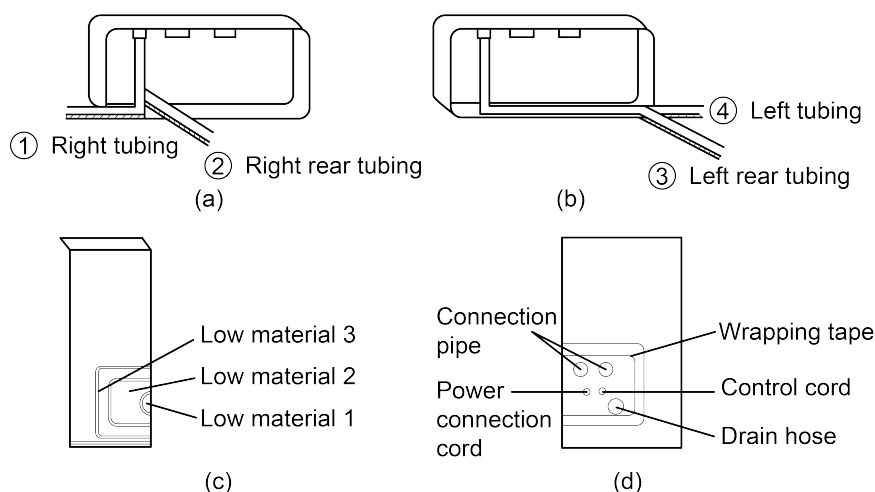

Fig. 5.6
- (1) When routing the piping and wiring from the left or right side of the indoor unit, it is necessary to cut off the tailings of the pipe left on the holder of the unit (Shown in Fig. 5.6).
- (2) Let the tubing and cord pass though the piping hole after tied up (refer to Fig. 5.6 (d)).
- (3) Hang the claw behind the indoor unit on the pothook on the wall panel, and move the unit left and right to check if the body is firm.
- (4) Guarantee that the installation height of the indoor unit should be 2.5m(8-1/4feet) above the floor.